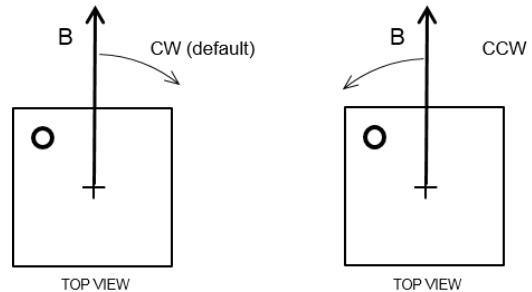

Figure 15: Positive Rotation Direction of the Magnetic Field
By default, when looking at the top of the package, the angle increases when the magnetic field rotates clockwise (CW) (see Figure 15 and Table 9).